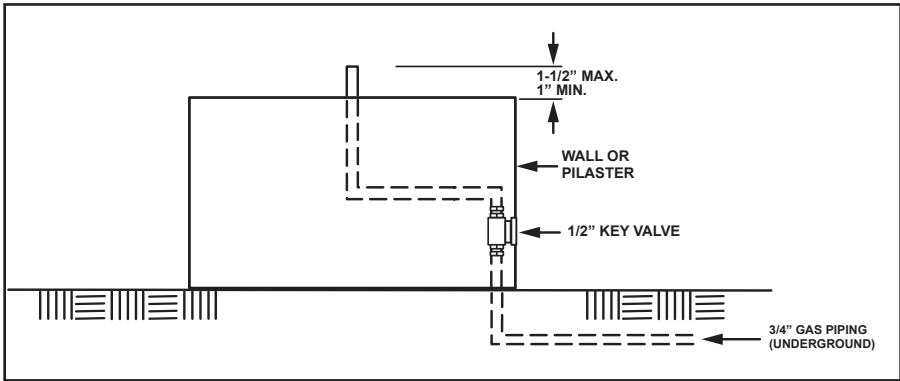
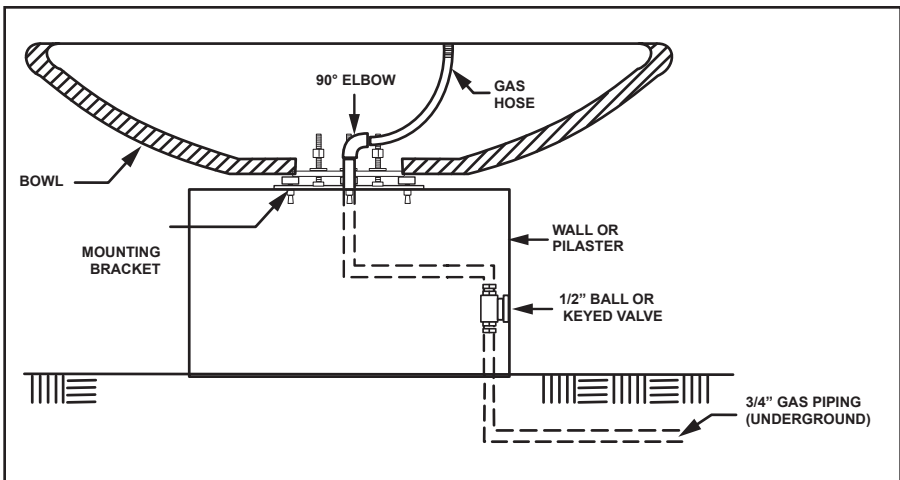
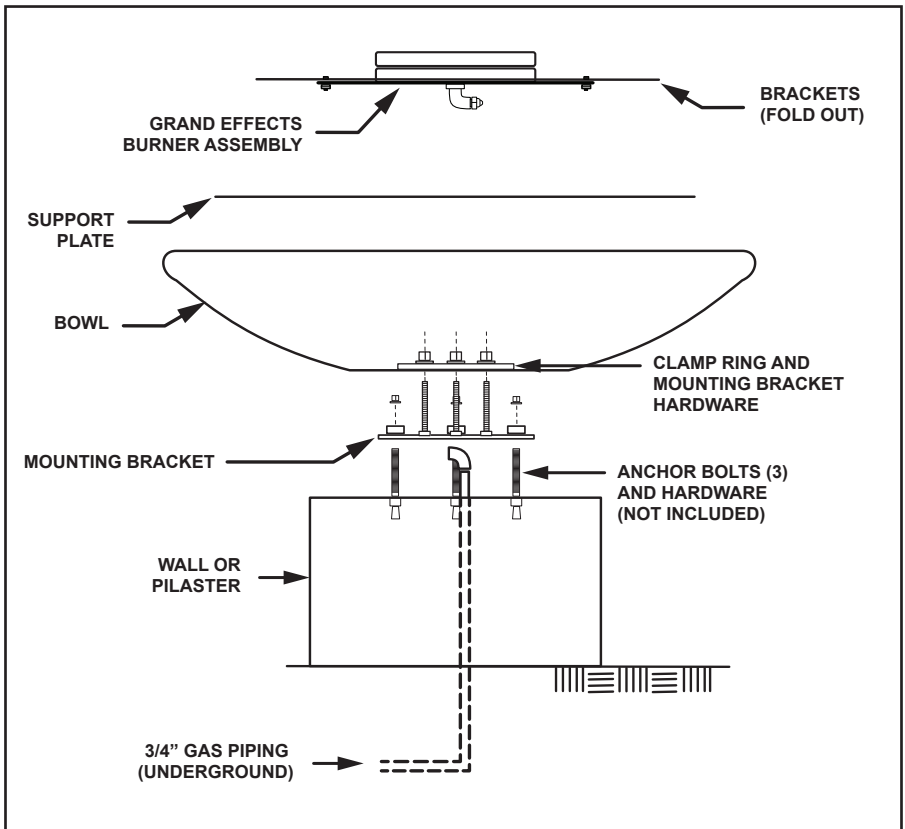

Figure 3. Piping
Figure 4. Mounting
Figure 5. Bowl Components
1. Attach the mounting bracket to the surface/floor. See Figure 4.
1. Install the Grand Effects® Unit as shown in Figure 3, Figure 4, and Figure 5.
2. The gas piping must be installed underground between each fire or water bowl, as shown in Figure 3.
3. The piping must be reduced to 1/2" NPT or larger at each bowl, as shown in Figure 3.
7. Install the mounting bracket as shown in Figure 4.
- b. Install the clamp ring onto the three (3) securing bolts and fasten to the bottom of the bowl using a nut and washer on each securing bolt.
9. Install a 3/8" 90° pipe elbow and gas hose at the gas connection as shown in Figure 4.
IMPORTANT: The mounting bracket must be installed for proper cooling of the burner assembly. Warranty may be voided if the mounting bracket is not installed. Do not kink or make sharp radius on the metal gas hose. Do not come straight up with the gas hose. As shown in Figure 4, a 90° gas pipe elbow must be installed on the gas line for proper installation of the gas hose.
The product warranty may be voided if the hose is not installed with an elbow as shown in Figure 4.
1. The height of the flame can be adjusted at each burner by opening or closing the 1/2" gas valve or keyed valve located at each column as shown in Figure 4.